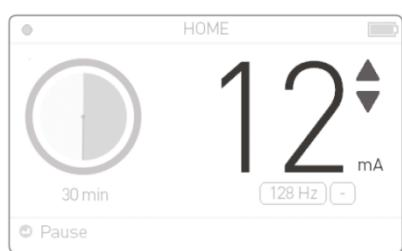

Figure 26. Adjust intensity
4. Increase current intensity with  until it starts to feel uncomfortable/painful, then decrease one (1) mA with , *see figure 26*. The intensity can be set from 1-42 mA.